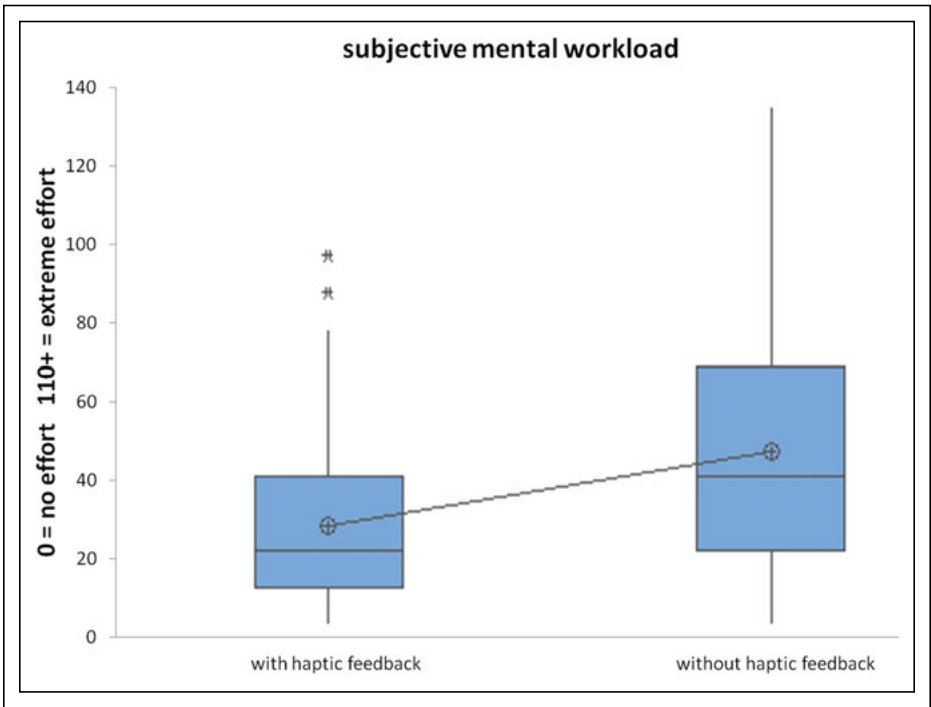

Fig. 5: Haptic feedback reduced the subjective workload by half: Results with haptic feedback (left) and without haptic feedback (right).
- Measuring the subjective workload showed a clear effect across all test drivers. They unanimously perceived the workload as much lower with haptic feedback. The scale ranged from 0 (0 no effort at all) to 150 (= maximum effort felt). Without haptic feedback, the average result was 40. With haptic feedback, the number dropped to 20. Statistically, this effect is highly significant (Fig. 5).